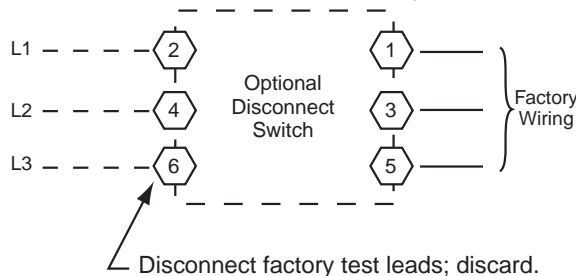
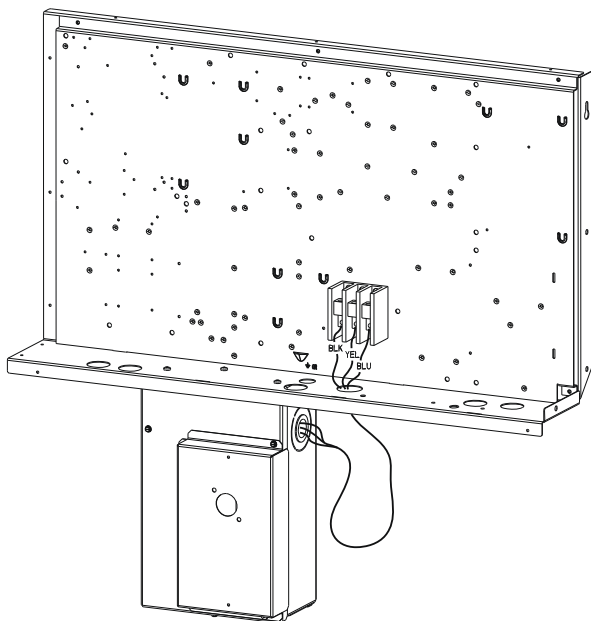

Fig. 42 — Power Wiring Connections (Size 16)
Fig. 44 — Location of Non-Fused Disconnect Enclosure (Size 16)
Field power wires are connected to the unit at line-side pressure lugs at the main terminal block (TB1) or at factory-installed option non-fused disconnect switch. Max wire size is #2 AWG (copper only). See Fig. 42.
Size wire based on MCA (Minimum Circuit Amps) on the unit informative plate. See Fig. 42 and the unit label diagram for power wiring connections to the unit power terminal blocks and equipment ground. Maximum wire size is 2/0 AWG per pole.
Units with Factory-Installed Disconnect — The factory-installed option disconnect switch is located in a weatherproof enclosure located under the main control box (see Fig. 44). The manual switch handle is accessible through an opening in the access panel. Discard the factory test leads (see Fig. 42 on page 25). The factory disconnect is an 80A disconnect.
2. Install power lines to terminal connections as shown in Fig. 42.